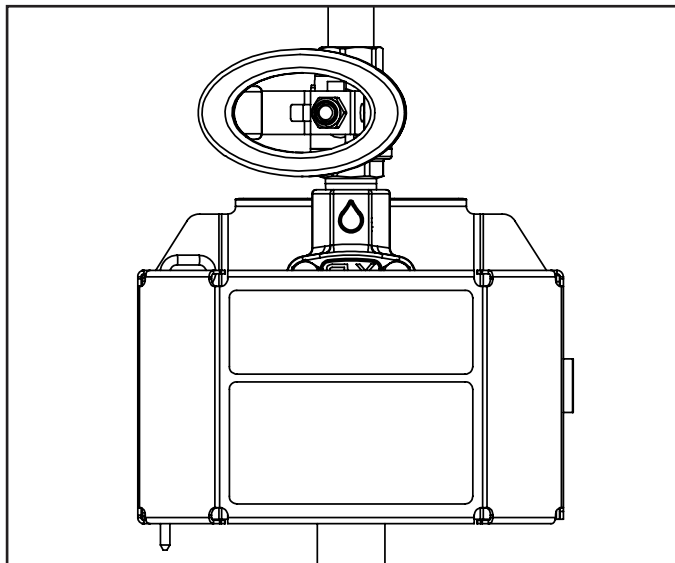

Fig. 5.1: Water supply ball valves closed.
1. Ensure unit is properly connected and the pump supply valve is closed [Fig. 5.1]